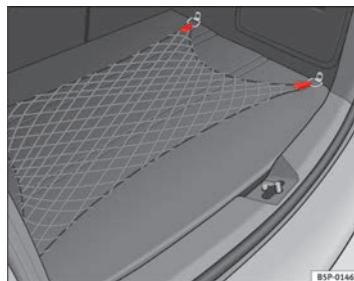

Fig. 108 Luggage compartment net
- Use the fastening rings located on the side of the luggage compartment to attach the storage net ⇒ Fig. 108.